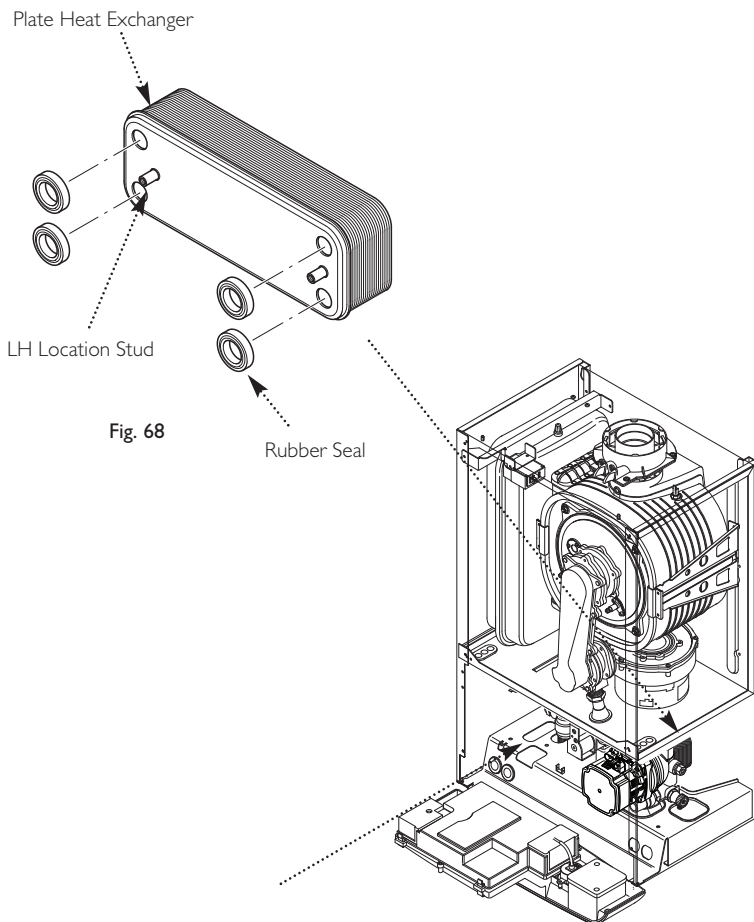

Fig. 68
13.19 Plate Heat Exchanger (Fig. 68)